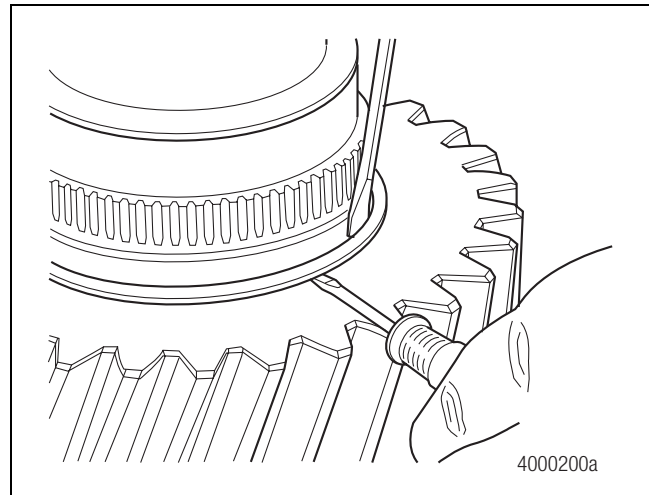

Figure 4.26
5. Remove the spiral snap ring that retains the small helical gear on the input shaft. Lift the small helical gear off the shaft. Figure 4.26.